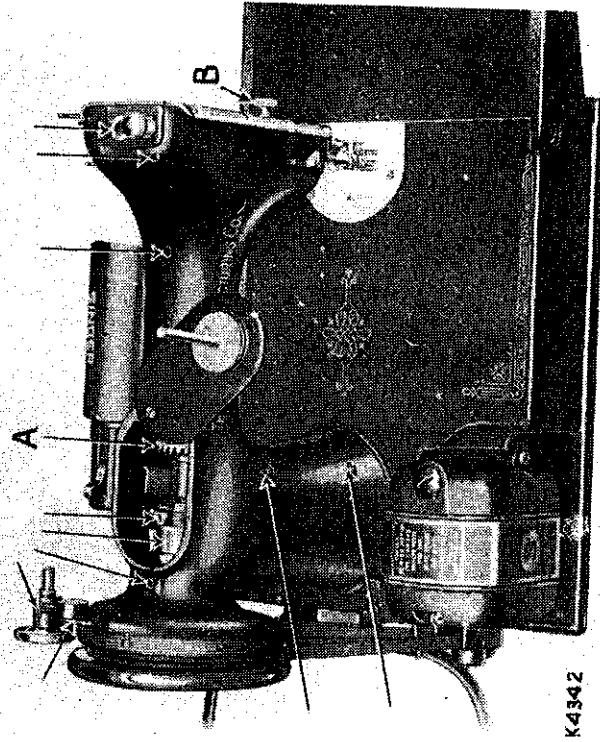
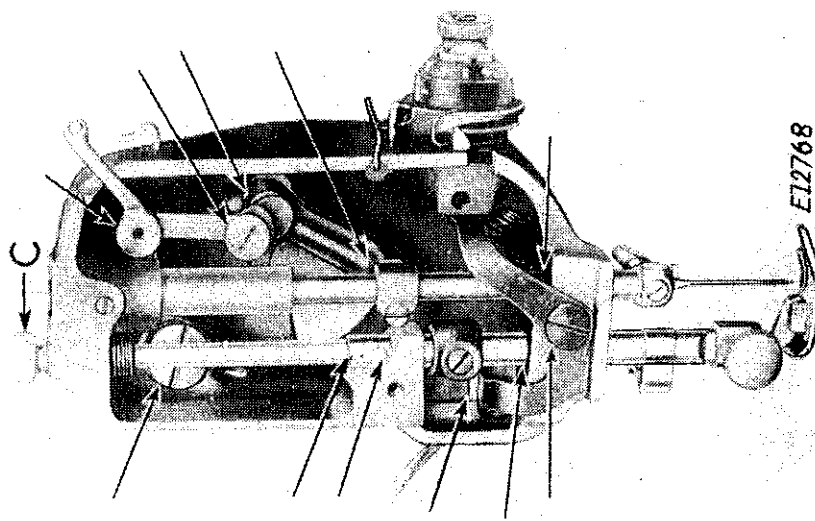

Fig. 18.
Fig. 19.
For ordinary family sewing it is seldom necessary to change the pressure on the material. If sewing fine silk or flimsy material, lighten the pressure by giving the thumb screw (C, Fig. 19) two or three turns upwards. To increase the pressure, give the thumb screw a few turns downwards.
If used constantly, the machine should be oiled daily, while with moderate use, an occasional oiling is sufficient. A drop of oil should be applied at each of the points indicated by the unlettered arrows in Figs. 18, 19, and 20. Oil holes are provided in the machine for bearings which cannot be directly reached. When oiling insert the oil can spout well into the oil holes.
Turn back the cover at the top of the machine and oil the moving parts inside the arm as indicated in Fig. 18, and occasionally apply a small quantity of Singer Motor Lubricant to the teeth of the gear (A), then replace the cover.
Take out the thumb screw (B, Fig. 18) and remove the face plate. Put one drop of oil into each of the holes and joints indicated in Fig. 19, then replace the face plate and thumb screw.